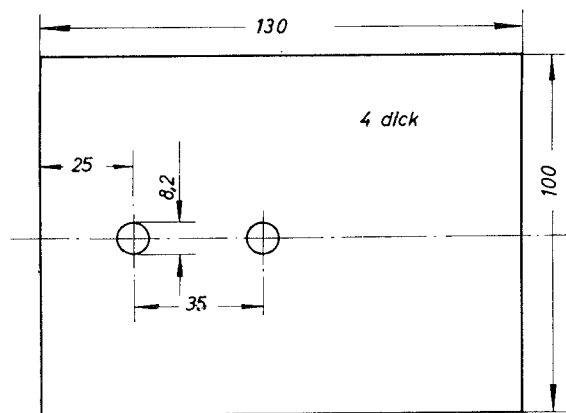

Fig. 2
1. Make reinforcement plates (as per sketch) to fasten the shackles to the side-wall in the rear of the car's interior (see Fig. 2).